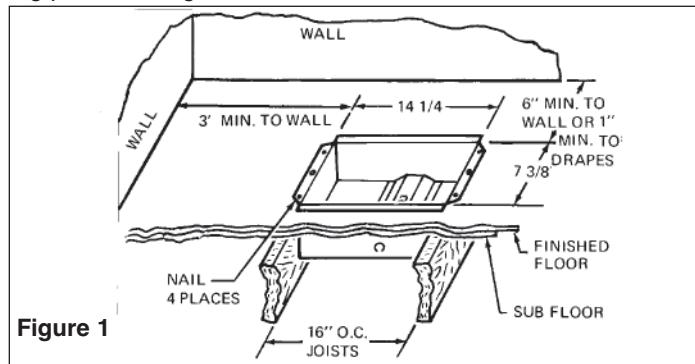

Figure 1
- Provide a hole 7-3/8" by 14-1/4" (187mm by 362mm) in floor at least 6" (152mm) from the wall with the longest side parallel to the wall as shown in Figure 1.